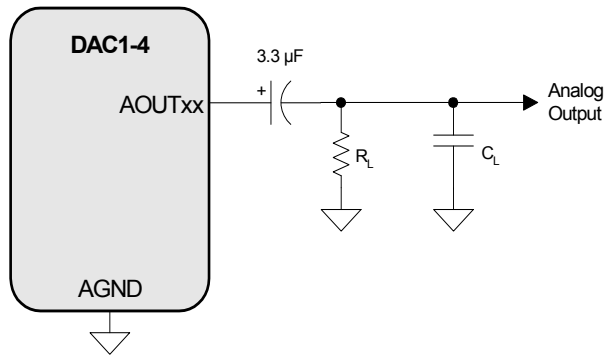

Figure 2. Output Test Circuit for Maximum Load
13. Guaranteed by design. See Figure 2. R_L and C_L reflect the recommended minimum resistance and maximum capacitance required for the internal op-amp's stability and signal integrity. In this circuit topology, C_L will effectively move the dominant pole of the two-pole amp in the output stage. Increasing this value beyond the recommended 100 pF can cause the internal op-amp to become unstable. See "External Filters" on page 54 for a recommended output filter.